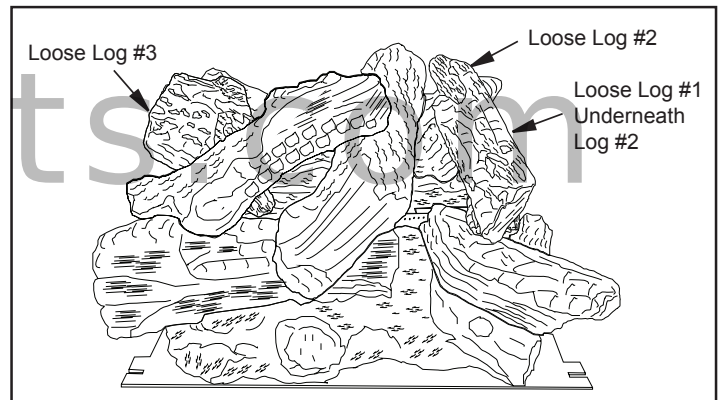

Figure 3 - Removing Loose Logs 36" Models Only
6. **For 36" models only**, remove 3 loose logs, log set and burner base as shown in Figure 3.